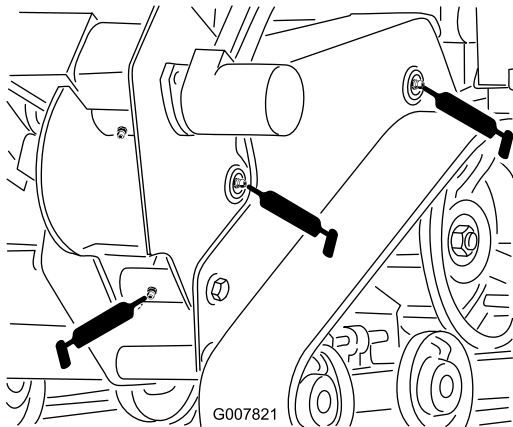
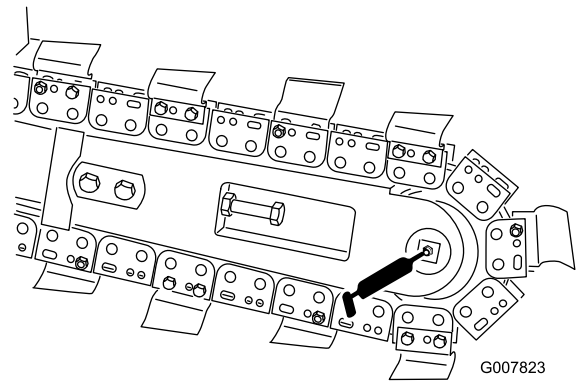

Figure 23
Figure 25
4. Connect a grease gun to each fitting (Figure 23 through Figure 25).